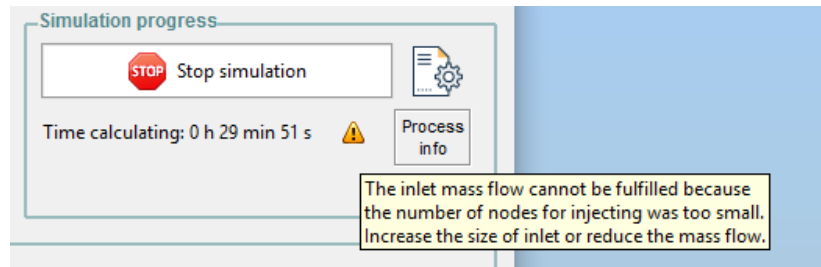

Figure 20. Warning message when the inlet mass flow cannot be fulfilled.
- By default, the inlet will inject particles at a certain speed. For very high mass flows, this may become a problem since the required injection speed can be very high. If the maximum speed allowed for the code to be stable is reached, the particles will be injected with a mass flow below the value entered by the user. If this occurs, a warning message will appear while the simulation is running, in Step 5 (Figure 20). To avoid this problem, the "densified flow" option is introduced.
A warning icon will appear in this area of the interface if the mass flow specified by the user cannot be reached (Figure 20). At this point, you should check that the mass flow value is right and, if so, you can try using a “densified flow” option in the inlet definition (see section 2.4 for more information).